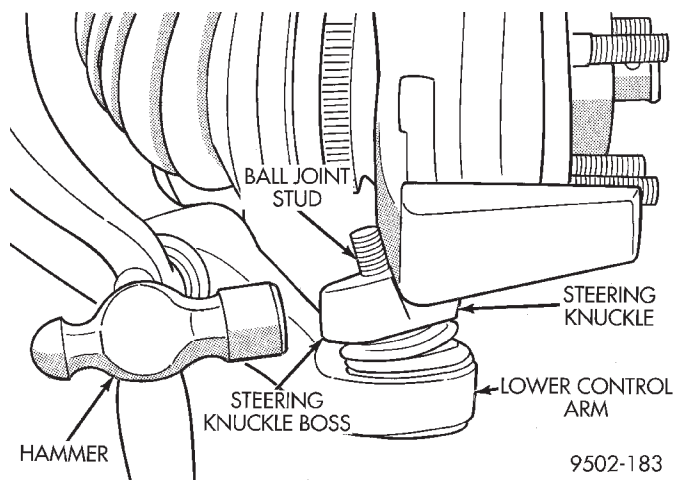

Fig. 11 Separating Ball Joint Stud from SteeringKnuckle
(13) Turn steering knuckle so the front of the steering knuckle is facing as far outboard in the wheel well as possible. Using a hammer strike steering knuckle boss until steering knuckle separates from stud of lower ball joint (Fig. 11). **When striking steering knuckle, care MUST be taken not to hit lower control arm or ball joint grease seal.**